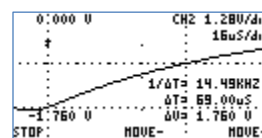

Figure 56: Half-life measurement
- 12) The display should look like figure 56. The measured time,  $T_{1/2} = 69\mu s$ , is the "half-life" time, so  $RC = 9.95\mu s$